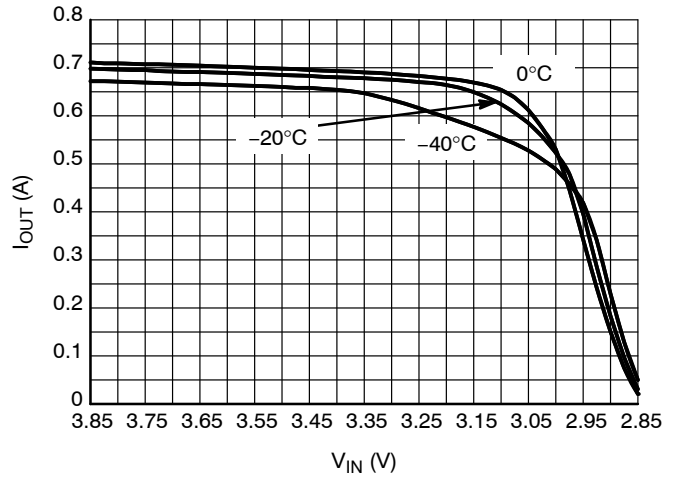

Figure 18. Output Current Capability for the 2.85 V Version
32. For output current capability for $T_A < 0^\circ\text{C}$, please refer to Figures 18 to 22.